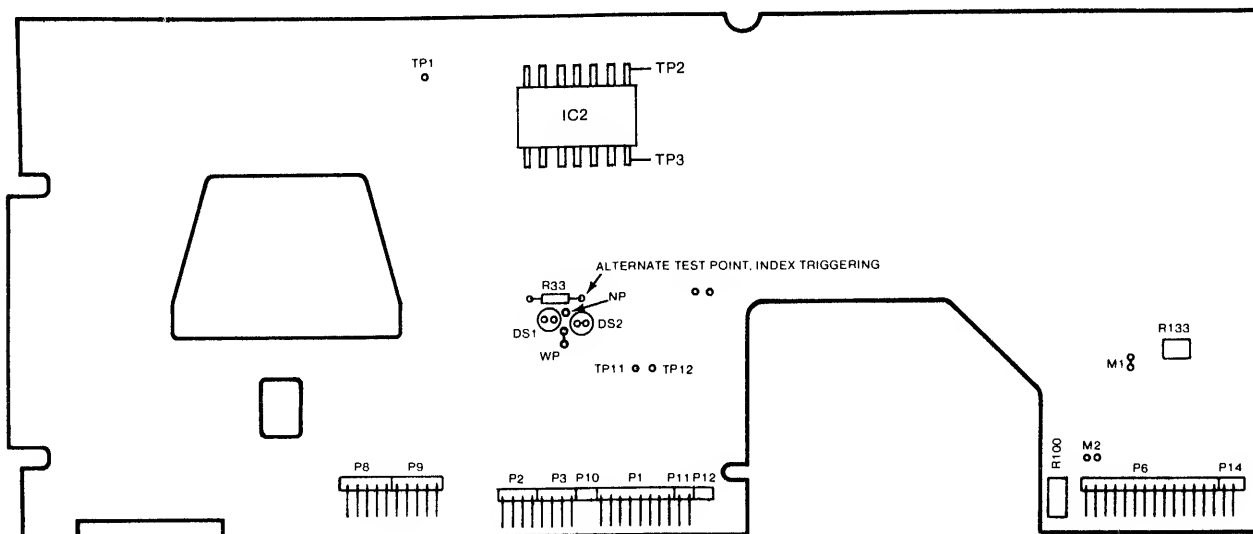

Figure 4-1. Circuit Board Assembly, Test Points
5. Adjust R133 (see figure 4-1) on the drive circuit board until the RPM is 360 RPM. If observed on an oscilloscope the index pulses should be 166.67 milliseconds from leading edge to leading edge. The index pulse can be seen at the right side of resistor R33.